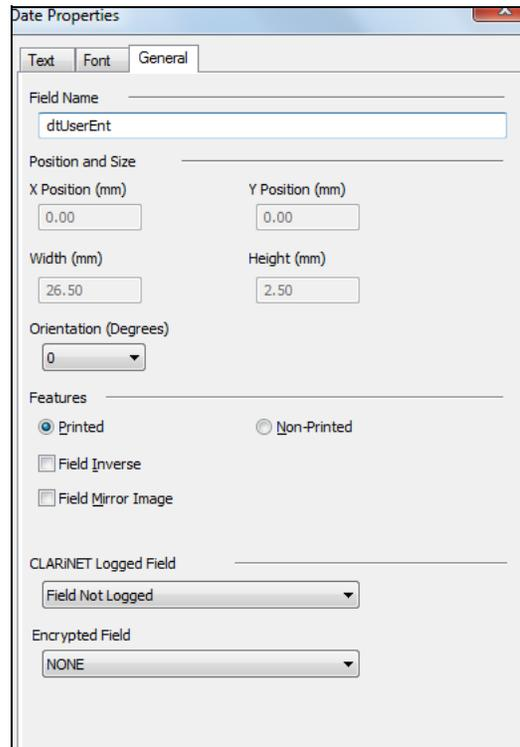

Figure 6-2: Date Properties
- 4 In *General* tab of the *Date Properties* dialog box, give this field a unique meaningful name ('dtUserEnt' in this example). See Figure 6-2.